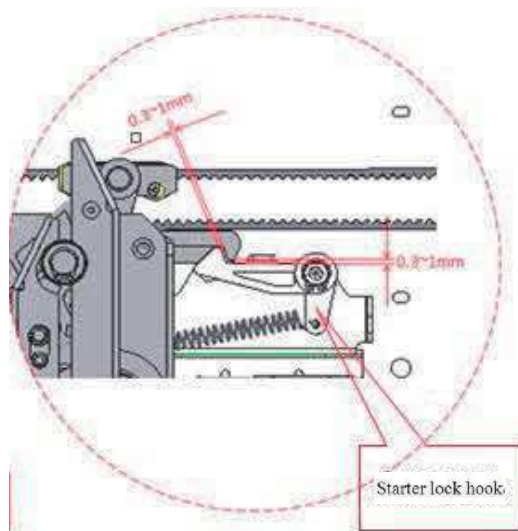

图 6-7-1
- a) Re-adjust the mounting dimensions. After fixing the skate according to the size, adjust the skate starter to ensure the gap between the starter and hook at 0.3mm~1mm, refer to Figure 6-7-1.